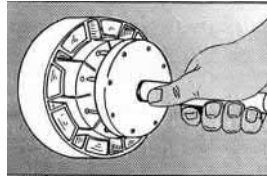

Figure 2.
- (8) Mount the die set between master dies (Figure 2) so that the tool rod is fitted deep enough in the centering hole and start closing the dies in *manual* mode.